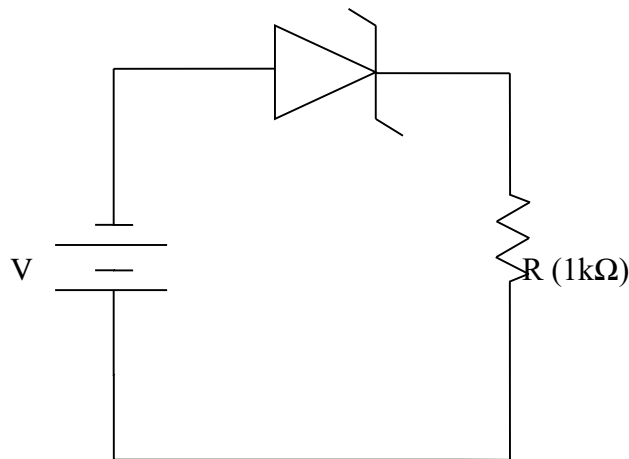

Fig 7.4 Reverse zener diode circuit
1. Draw circuit diagram of Fig 7.4 on breadboard.